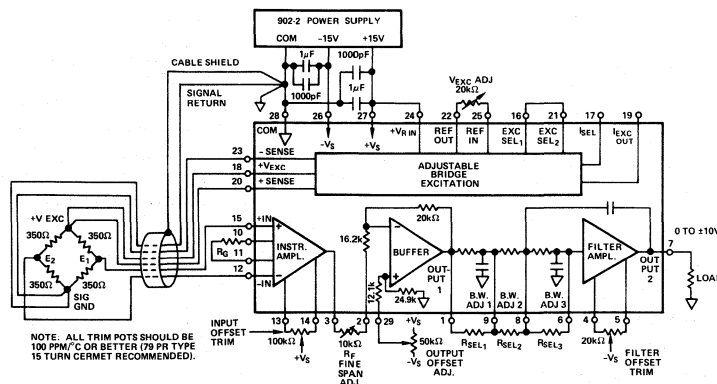

Figure 1. Typical Bridge Transducer Application Using 2B31
The 2B30 and 2B31 employ a multi-stage design, shown in Figure 1, to provide excellent performance and maximum versatility. The input stage is a high input impedance ( $10^8 \Omega$ ), low offset and drift, low noise differential instrumentation amplifier. The design is optimized to accurately amplify low level (mV) transducer signals riding on high common mode voltages ( $\pm 10V$ ), with wide (1-2000V/V), single resistor ( $R_G$ ), programmable gain to accommodate 0.5mV/V to 36mV/V transducer spans and 5Ω to 2000Ω RTD spans. The input stage contains protection circuitry for accidental shorts to power line voltage (130V rms) and RFI filtering circuitry.
Figure 1 illustrates the 2B31 wiring configuration when used in a typical bridge transducer signal conditioning application. A recommended shielding and grounding technique for preserving the excellent performance characteristics of the 2B30/2B31 is shown.
Models 2B30/2B31 have been conservatively specified using min-max values as well as typicals to allow the designer to develop accurate error budgets for predictable performance. The error calculations for a typical transducer application, shown in Figure 1 (350Ω bridge, 1mV/V F.S., 10V excitation), are illustrated below.
where RG is the input stage resistor shown in Figure 1 and RF is the variable 10kΩ resistor in the output stage. For best performance, the input stage gain should be made as large as possible, using a low temperature coefficient (10ppm/°C) RG, and the output stage gain can then be used to make a ±20% linear gain adjustment by varying RF.
**Input Offset Adjustment:** To null input offset voltage, an optional 100kΩ potentiometer connected between pins 13 and 14 (Figure 1) can be used. With gain set at the desired value, connect both inputs (pins 12 and 15) to the system common (pin 28), and adjust the 100kΩ potentiometer for zero volts at pin 3. The purpose of this adjustment is to null the internal amplifier offset and it is not intended to compensate for the transducer bridge unbalance.
**Output Offset Adjustment:** The output of the 2B30/2B31 can be intentionally offset from zero over the ±10V range by applying a voltage to pin 29, e.g., by using an external potentiometer or a fixed resistor. Pin 29 is normally grounded if output offset setting is not desired. The optional filter amplifier offset null capability is also provided as illustrated in Figure 1.
**Filter Cutoff Frequency Programming:** The low pass filter cutoff frequency may be increased from the internally set 2Hz by the addition of three external resistors connected as shown in Figure 1. The values of resistors required for a desired cutoff frequency, fc, above 5Hz are obtained by the equation below: